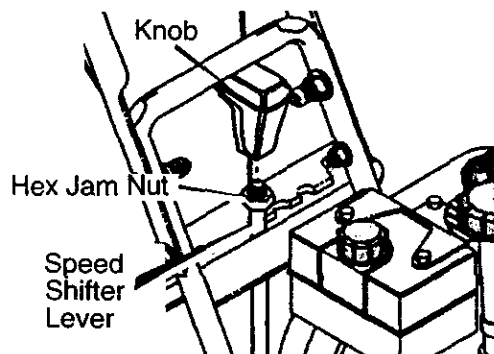

Figure 7
1. Thread the $\frac{1}{2}$ -13 hex jam nut found in parts bag onto the threaded end of the **shifter lever**. See Figure 7.